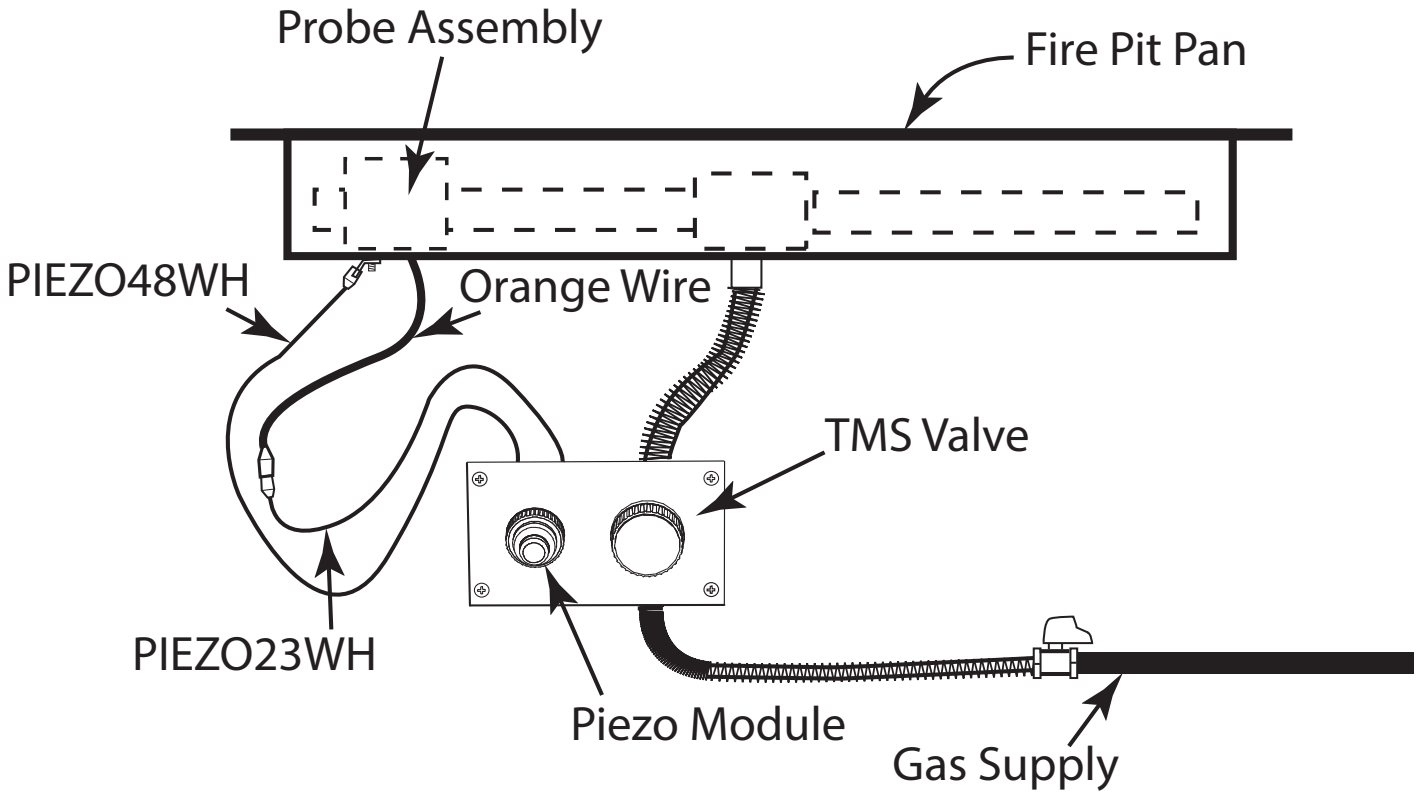

Fig. 11 Wiring diagram for complete system.
Step 13: Test the ignitor by pushing and holding the red button to ensure the 2-probe ignitor is sparking inside the ignition box in the burner pan. The spark should be located directly over top of the burner port hole for proper ignition of the gas as previously discussed. **Note:** Fig. 11 show details of the PIEZO48WH wire connection if needed.